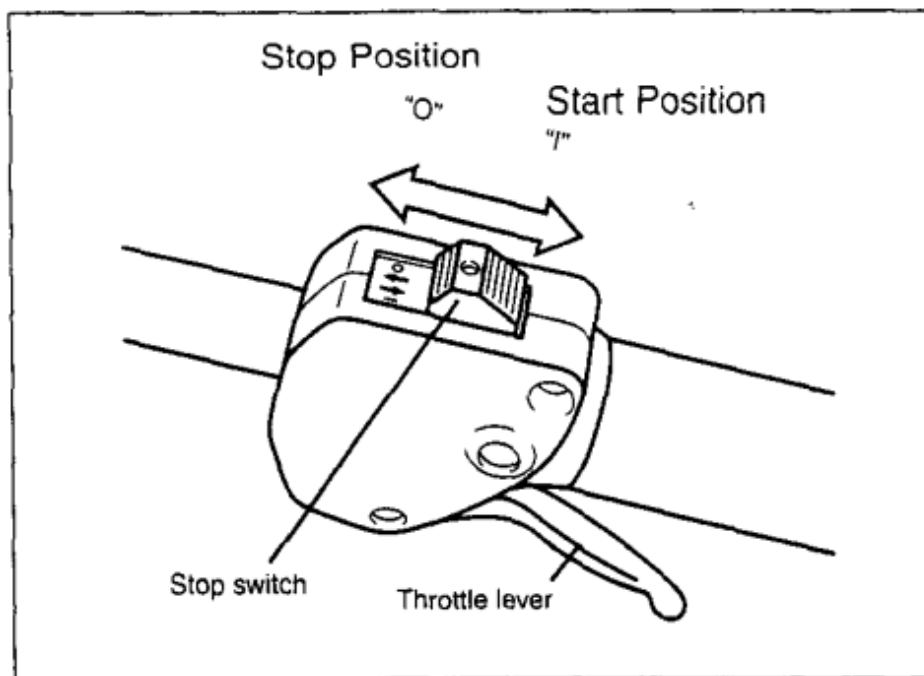

Fig. 5
1. Slide the stop switch away from the "STOP" position (Fig. 5).
1. Slide the stop switch away from the “STOP” position (Fig. 5).